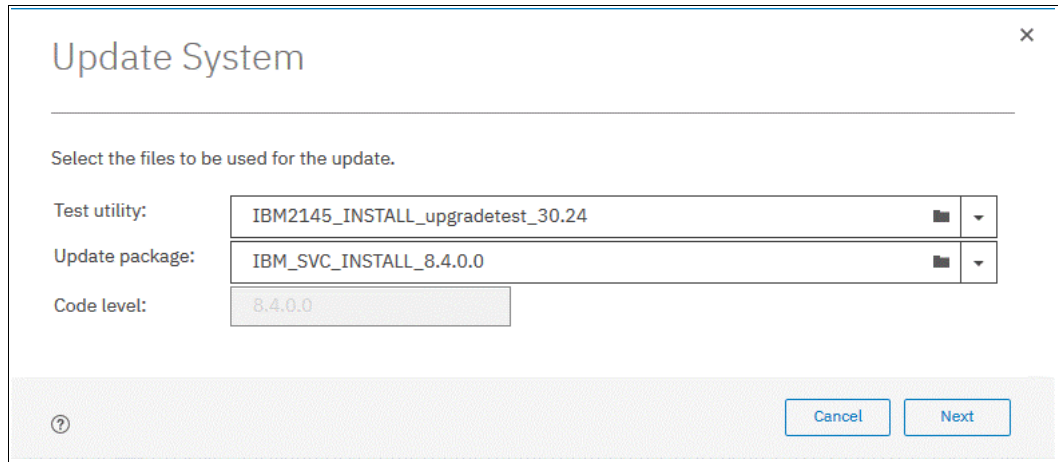

Figure 13-17 Upload option for both the test utility and update package
4. Because you downloaded both files from Concurrent Compatibility and Code Cross Reference for IBM Spectrum Virtualize, you can click each folder, browse to the location where you saved the files, and upload them to the system. If the files are correct, the GUI detects and updates the target code level, as shown in Figure 13-17.